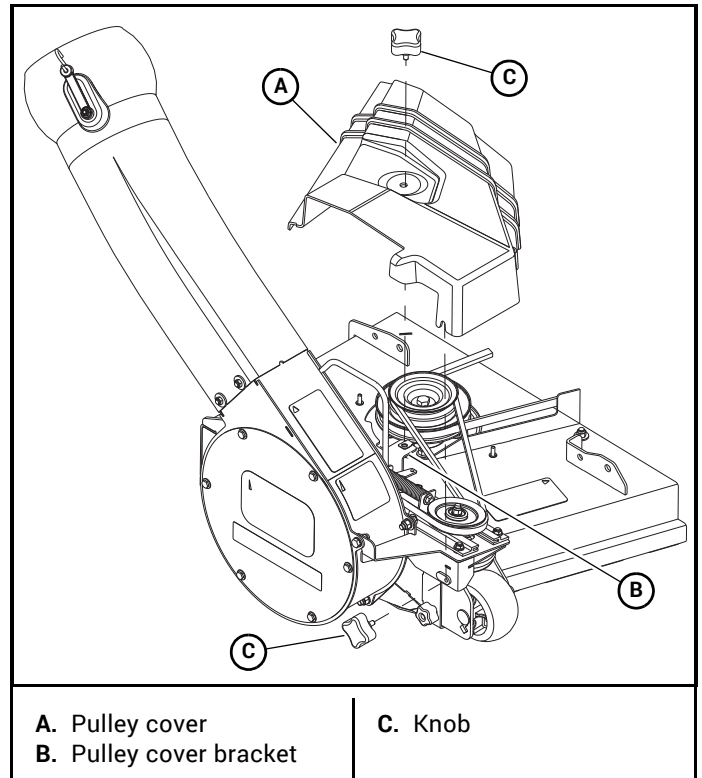
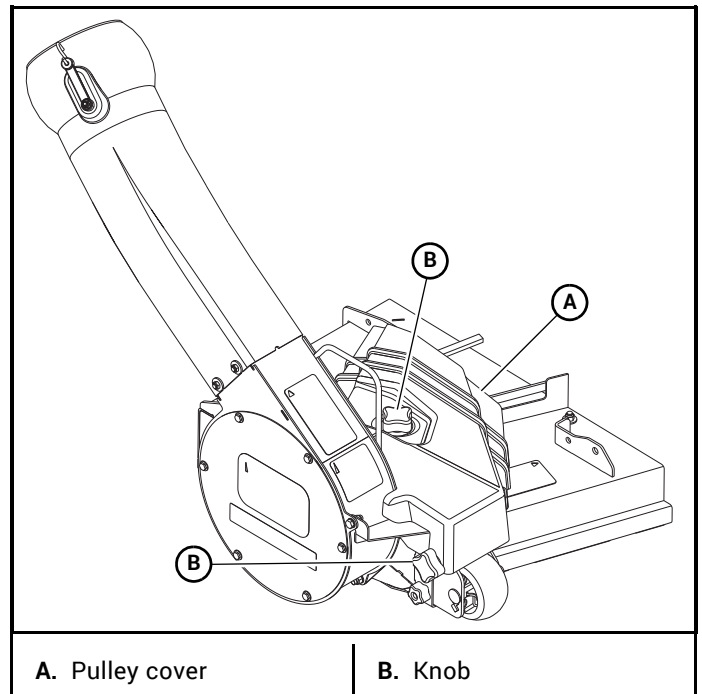

Figure 3-16
Figure 3-17
22. Attach the pulley cover as shown. Figure 3-16 & Figure 3-17